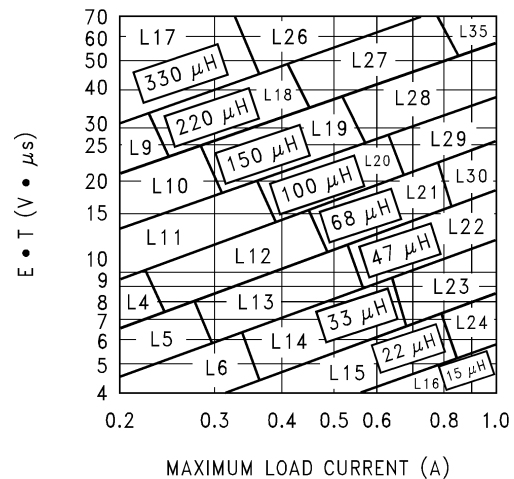

Figure 28. LM2598-ADJ
B. To simplify the capacitor selection procedure, refer to the quick design component selection table shown in Figure 28. This table contains different input voltages, output voltages, and load currents, and lists various inductors and output capacitors that will provide the best design solutions.	B. From the quick design component selection table shown in Figure 28, locate the 5V output voltage section. In the load current column, choose the load current line that is closest to the current needed in your application, for this example, use the 1A line. In the maximum input voltage column, select the line that covers the input voltage needed in your application, in this example, use the 15V line. Continuing on this line are recommended inductors and capacitors that will provide the best overall performance. The capacitor list contains both through hole electrolytic and surface mount tantalum capacitors from four different capacitor manufacturers. It is recommended that both the manufacturers and the manufacturer's series that are listed in the table be used. In this example aluminum electrolytic capacitors from several different manufacturers are available with the range of ESR numbers needed. 220 μF 25V Panasonic HFQ Series 220 μF 25V Nichicon PL Series